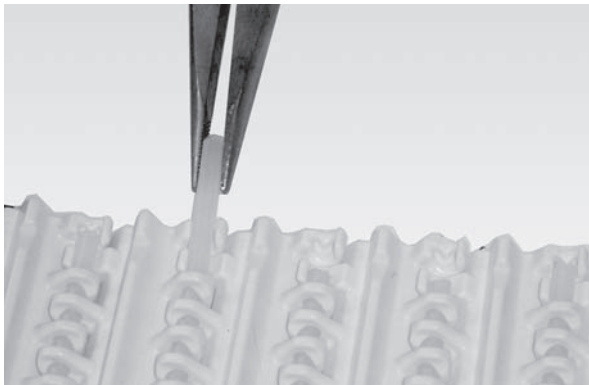

Figure 52
3. Remove the belt rod by gripping the end with a set of pliers and pulling (**Figure 52**).